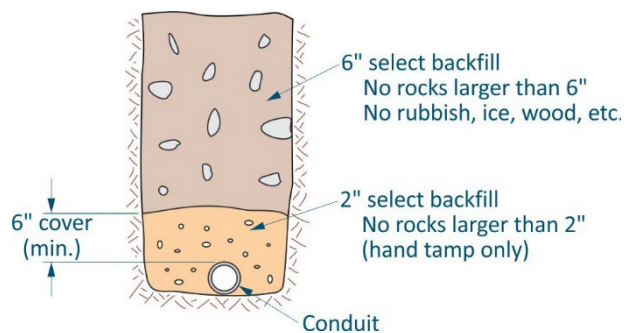

Figure 47 Shading and Backfill
Shade the conduit with enough two (2) inch select backfill material to provide a six (6) inch covering, see Figure 47.